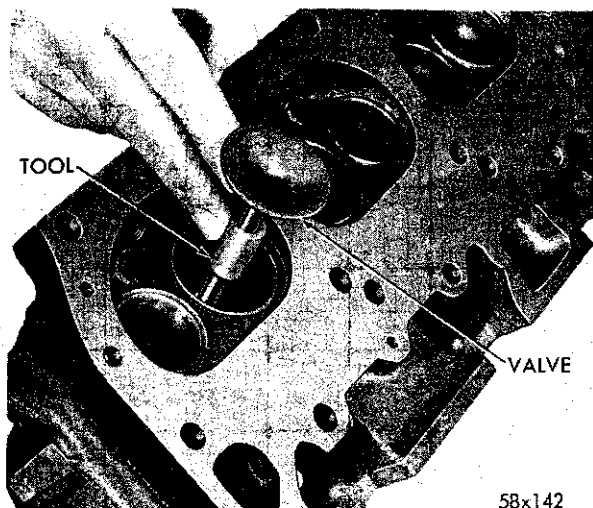

Fig. 9—Measuring Valve Stem Guide Clearance Using, Tool C-3026
(1) Clean the valves thoroughly, and discard any burned, warped or cracked valves.
(2) Measure the valve stems for wear. The intake valve stem diameter should measure .372 to .373 inch and the exhaust valve stem diameter should measure .371 to .372 inch. If the wear exceeds .002 inch, replace the valve.
(3) Remove the carbon and varnish deposits from the inside of the valve guides with cleaner, Tool C-756.
(4) Measure the valve stem guide clearance as follows: Install sleeve Tool C-3026 over the valve stem, as shown in Figure 9, and install valve.